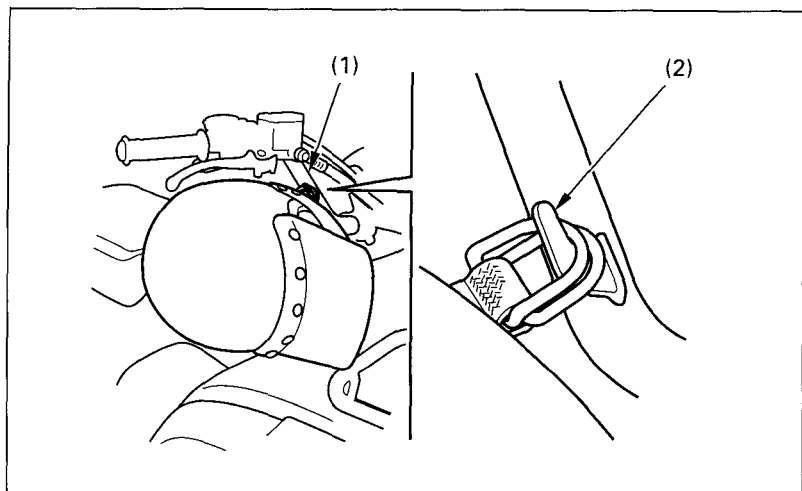

Fig. 2-28 (1) Handlebar
The helmet holder (2) (Fig. 2-28) is located on the right side of the handlebar (1). To use the holder, hang the D-ring on your helmet strap over the bracket. Use the helmet holder only when the FOURTRAX is parked.